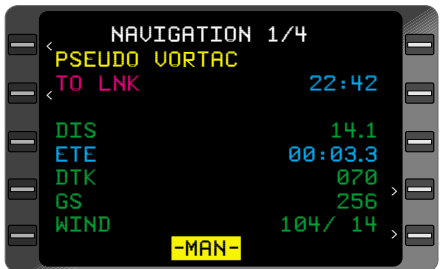

Figure 3-95
6. **ENTER** Key - DEPRESS. If the **DTK** entry positions the aircraft on the FROM, or far, side of the TO waypoint, the Leg Change Mode switches to **-MAN-**, otherwise it remains in **-AUTO-**. (Figure 3-95) The pilot must determine if **-MAN-** or **-AUTO-** is appropriate.